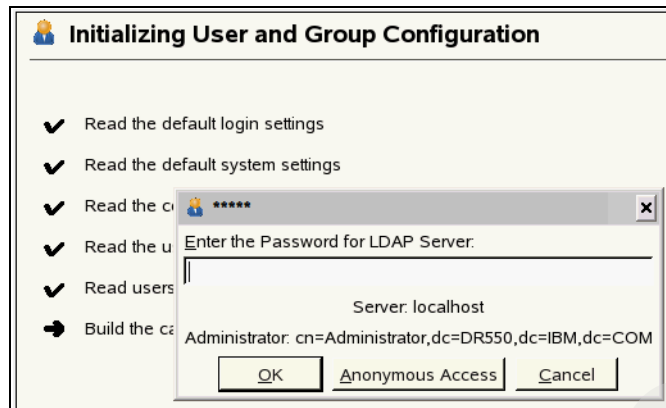

Figure 7-3 Enter LDAP administrator password
2. Because we have installed LDAP on this server, you are prompted to enter the LDAP Administrator password, as shown in Figure 7-3.